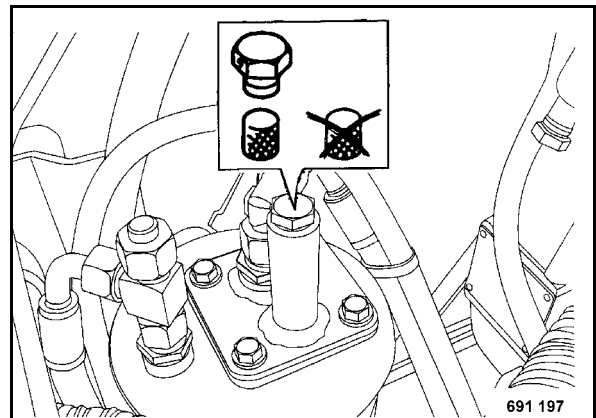

Fig. 73
- Unscrew the plug and take out the breather filter plug (Fig. 73).